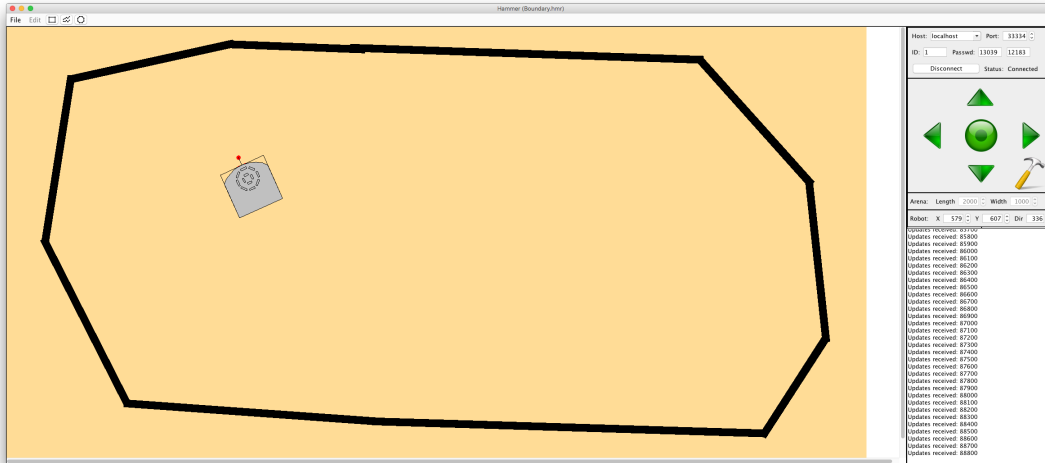

Figure 15: A ring of black tape with Thymio in the middle.
2. Create a large black tape ring in the arena, similar to the one in Figure 15. To place some black tape on the arena, click on the button beside the *File* menu that looks like two wavy lines. You can then draw a path on the arena by placing vertices on the arena surface, which will be connected by black line segments. Double-click to place the last vertex. The width of these black lines is comparable to the width of electrical tape used in the last lab.